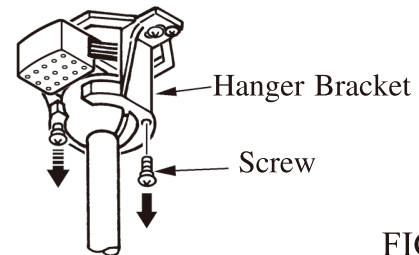

FIG.7
3. Remove one of screws and loosen the other screw from the hanger bracket. (See fig.7)